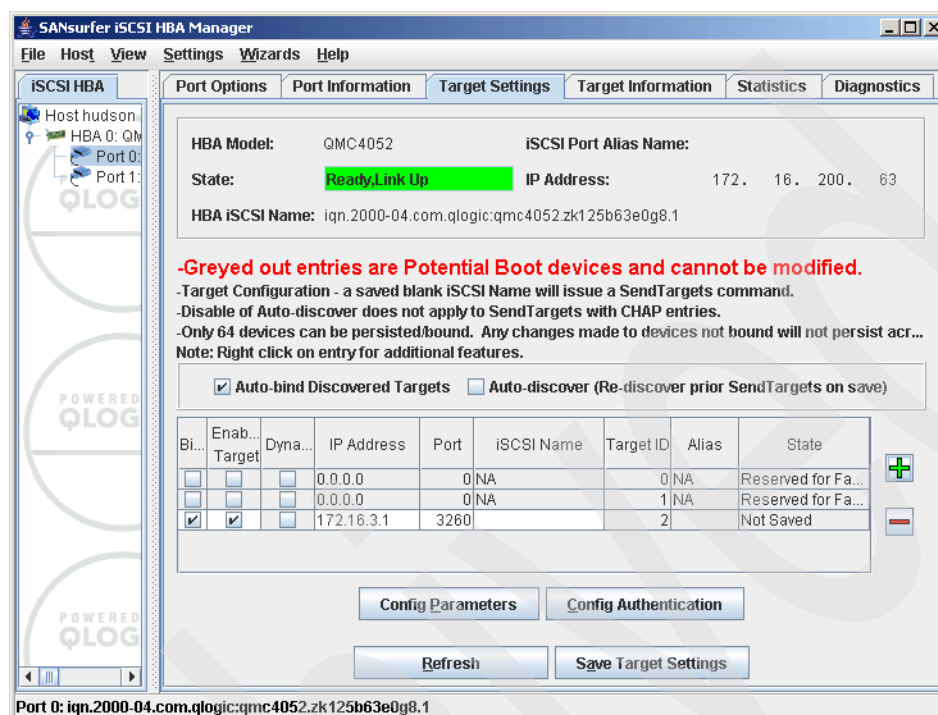

Figure 21-48 SANsurfer - Configured target
3. A target is added to the list, with the specified address, which will be used to discover the specified target and return a list of LUNs. The text **Not saved** in the State column for the new target indicates that this configuration modification was not yet saved. Click **Save Target Settings** to save the target settings. See Figure 21-48.